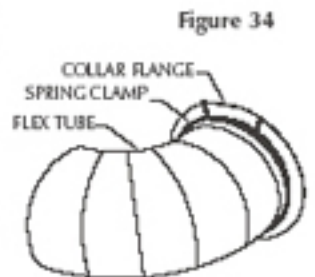

Figure 34
7. Slide this same end of the bypass tube over the flange of the collar and secure in place with the spring clamp. (Fig. 34)